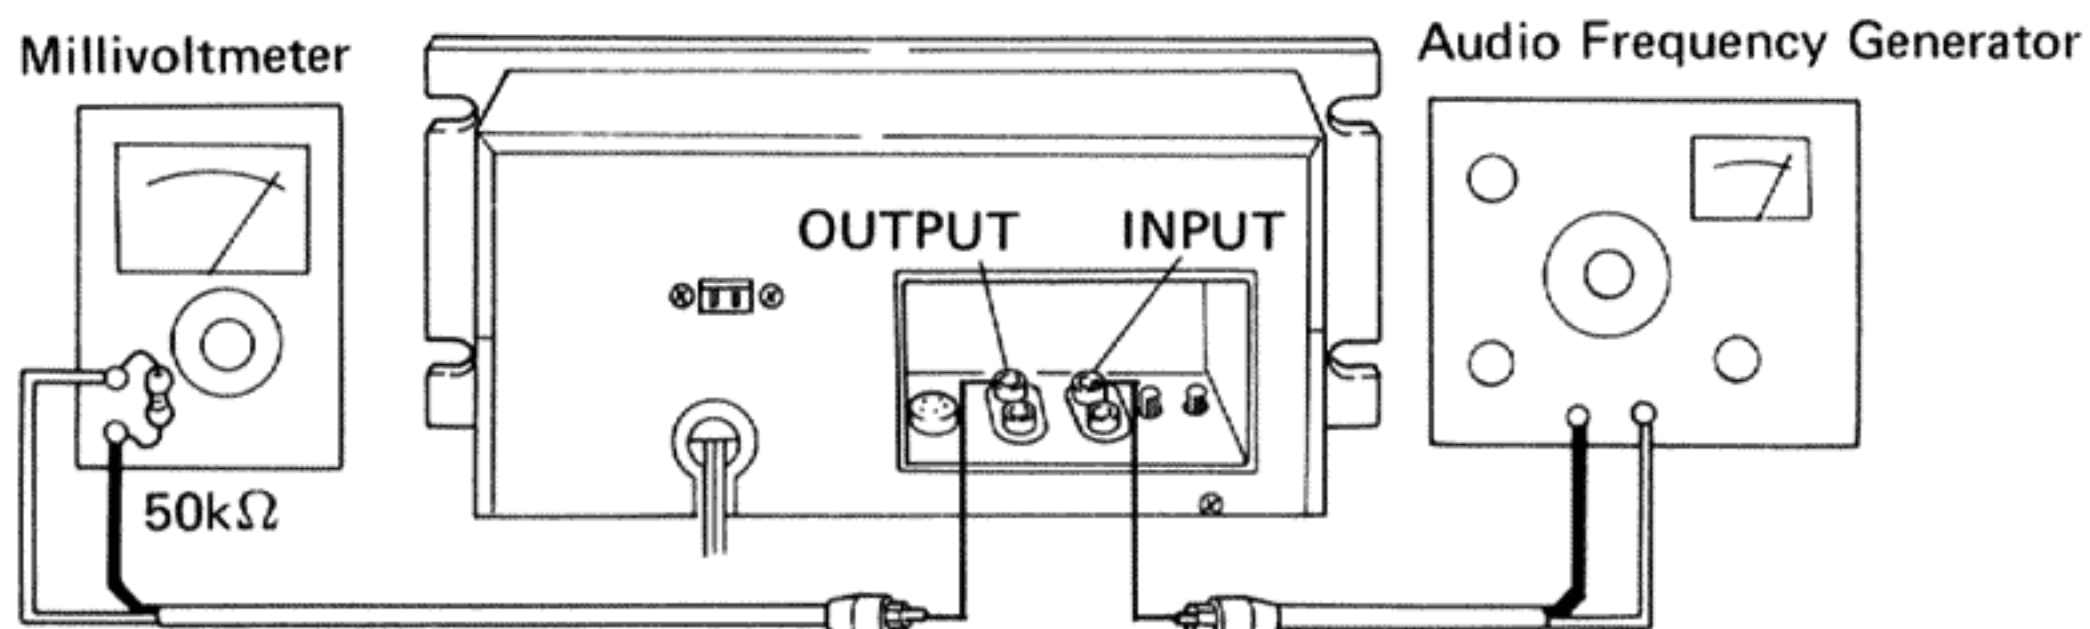

Fig. 33
- Connect a voltmeter (millivoltmeter) to the LINE OUTPUT terminals (Fig. 33).
- Connect a voltmeter (millivoltmeter) to the LINE OUTPUT terminals and apply a 1kHz, -10dBv (316mV) signal to the LINE INPUT terminals (Fig. 33).
- Connect a voltmeter (millivoltmeter) to the LINE OUTPUT terminals and apply a 1kHz signal to the LINE INPUT terminals (Fig. 33).